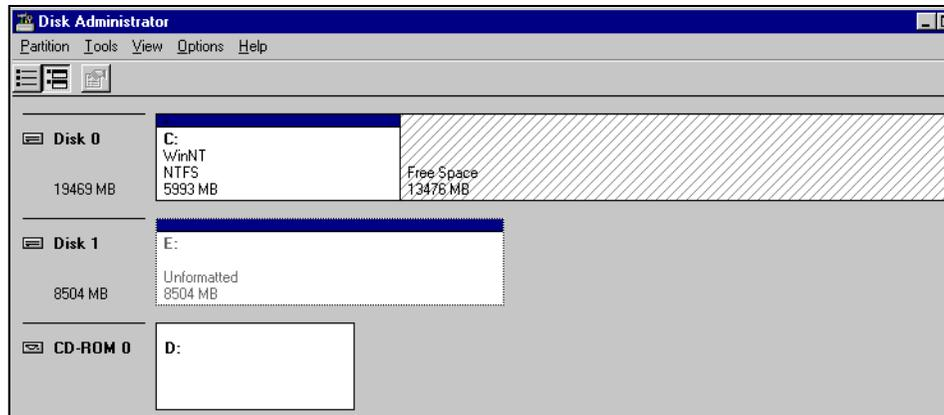

Figure 1-22 After creation of partitions
5. Your newly added volume has a status, as shown in Figure 1-22.